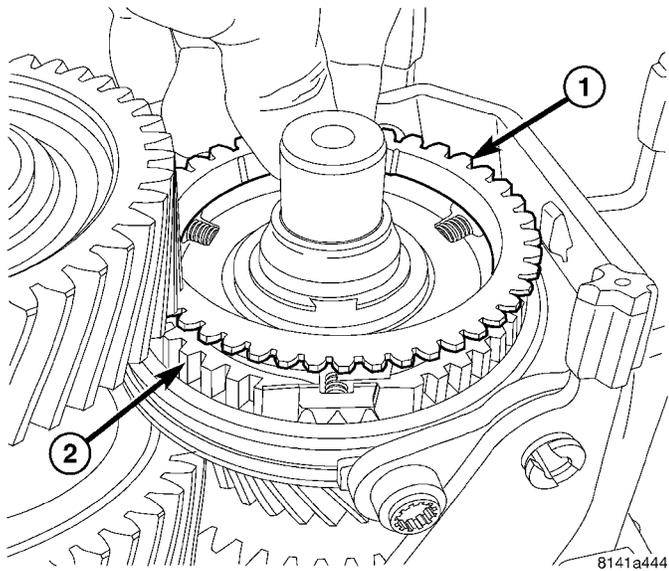

Fig. 106 FIFTH GEAR FRICTION RING
(8) Install fifth gear synchronizer friction ring (1) (Fig. 106) on 5-6 synchronizer hub (2).